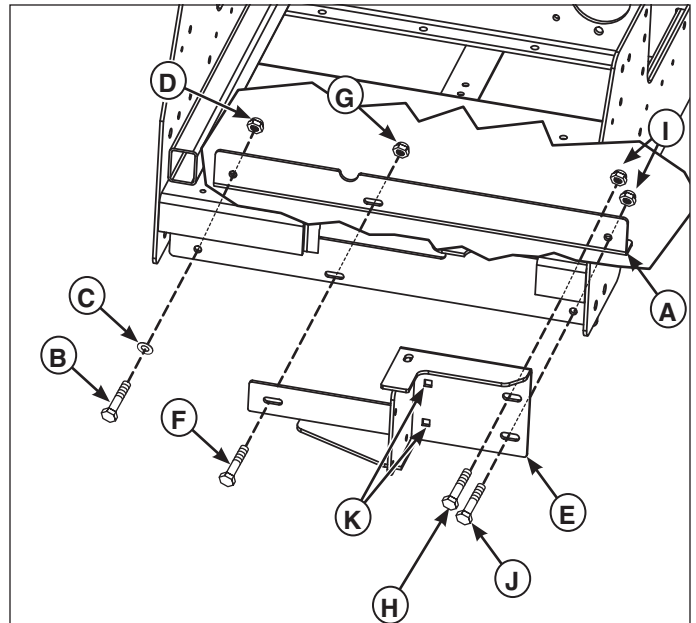
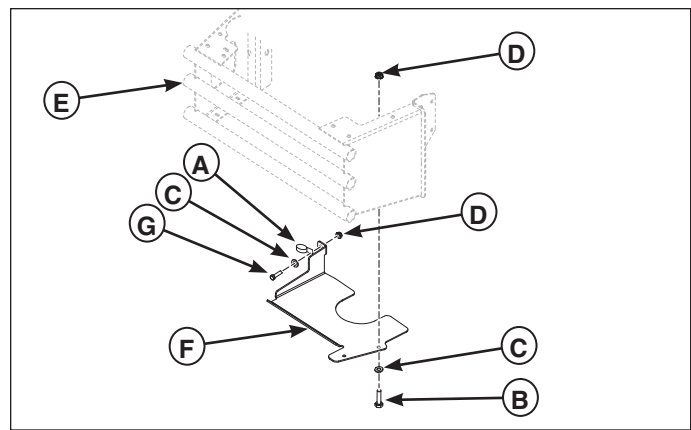
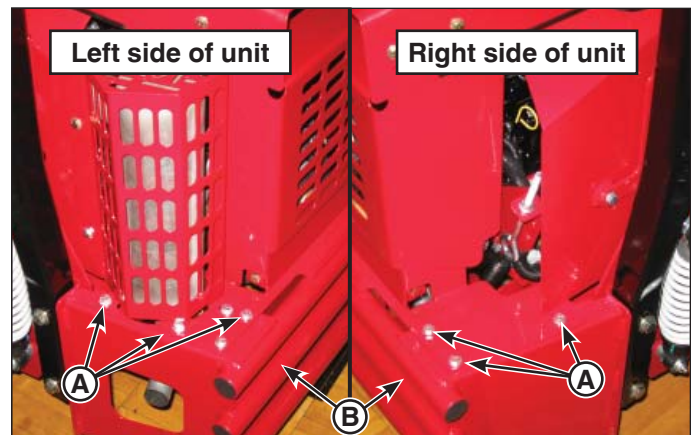

Figure 9. Installing the Gearbox Support Weldment
Figure 13. Removing the Lower Belt Guard
Figure 14. Removing the Hood Assembly
4. Install the bracket (**A, Figure 9**) on the inside of the frame. See Figure 9. Use the new 3/8 X 1-1/4" bolt (**B**), 3/8 flat washer (**C**) and 3/8 nylon flange nut (**D**) to secure the left side of the bracket.
9. Using a .390 drill bit, drill two (2) holes into the frame using the holes in the bracket (**K, Figure 9**) as a template as shown in Figure 9.
11. Remove the 3/8 X 1-1/4" carriage bolt (**H, Figure 9**), 3/8 X 1-1/2" bolt (**J**) and 3/8 nylon flange nuts (**I**) from the gearbox support weldment (**E**).
2. Reinstall the lower belt guard (F, Figure 13) to the bumper (E) and secure with two (2) 5/16-18 X 1" bolts (B), 5/16 SAE washers (C) and new 5/16-18 nylon flange nuts (D).
3. Remove the 5/16" X 1" placeholder bolt (F, Figure 9) and 5/16-18 nylon flange nut (G) and replace with a 5/16-18 X 1-1/4" bolt (G, Figure 13), 5/16 SAE washer (C), the hose clamp and secure with a new 5/16-18 nylon flange nut (D).
4. Reinstall the oil drain hose through the hose clamp (A).
6. Secure the hood assembly to the bumper using six (6) 5/16-18 X 3/4 bolts, 5/16 gr. 9 washers and new 5/16-18 nylon flange nuts (A, Figure 14).